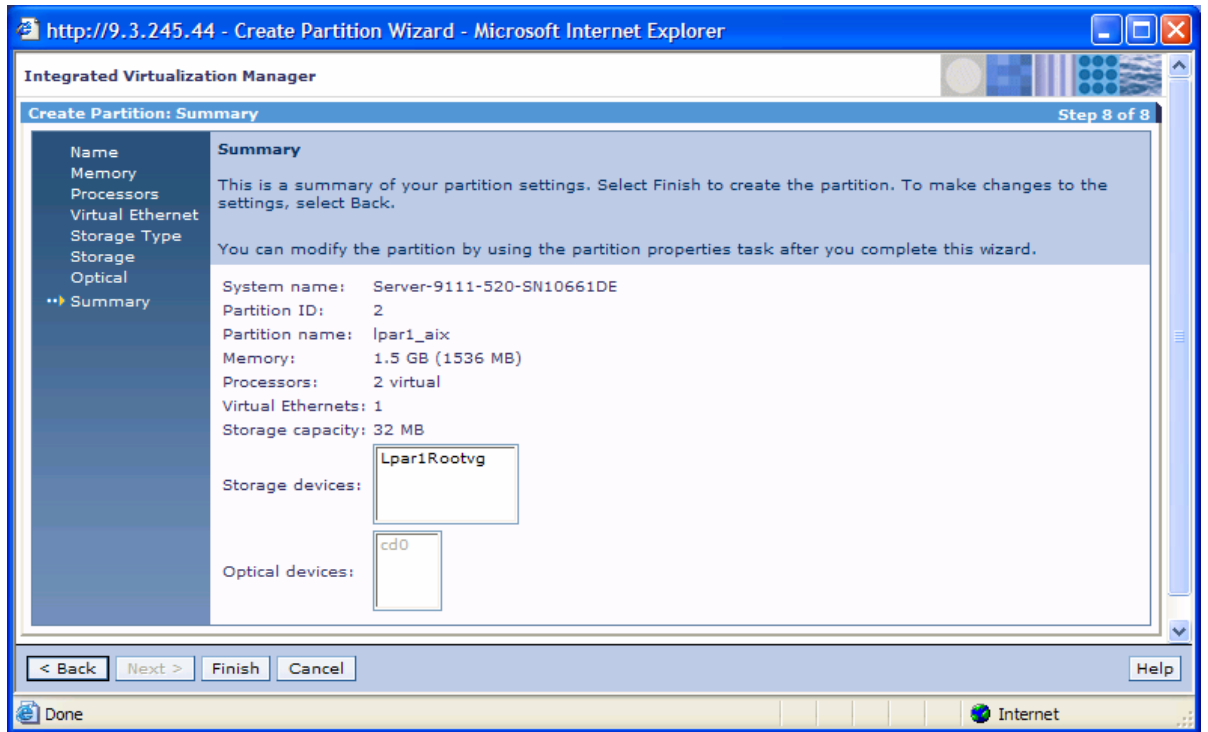

Figure 56. Reviewing the partition summary screen for accuracy
10. Review the partition Summary screen for accuracy (see Figure 56). Then, click **Finish**.